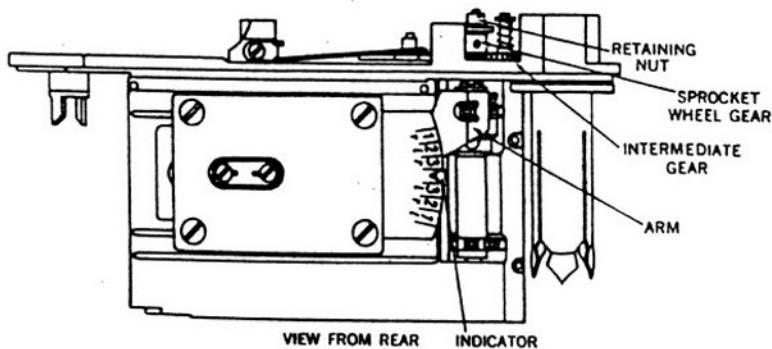

Figure 4-17. Sprocket Wheel Gauge in Test Position.
(Fig. 4-17, 4-18, 35)
- (1) Wind the camera shutter and position gauge 42-253.01-Z1A89 in the film aperture (fig. 4-17). A tooth of the sprocket wheel must appear through the opening in the gauge arm.
- (2) Move the winding lever to the right as far as it will go, and hold it against its stop. The indicator gauge should rest at mid-scale. If the indicator is off-center, proceed as below.